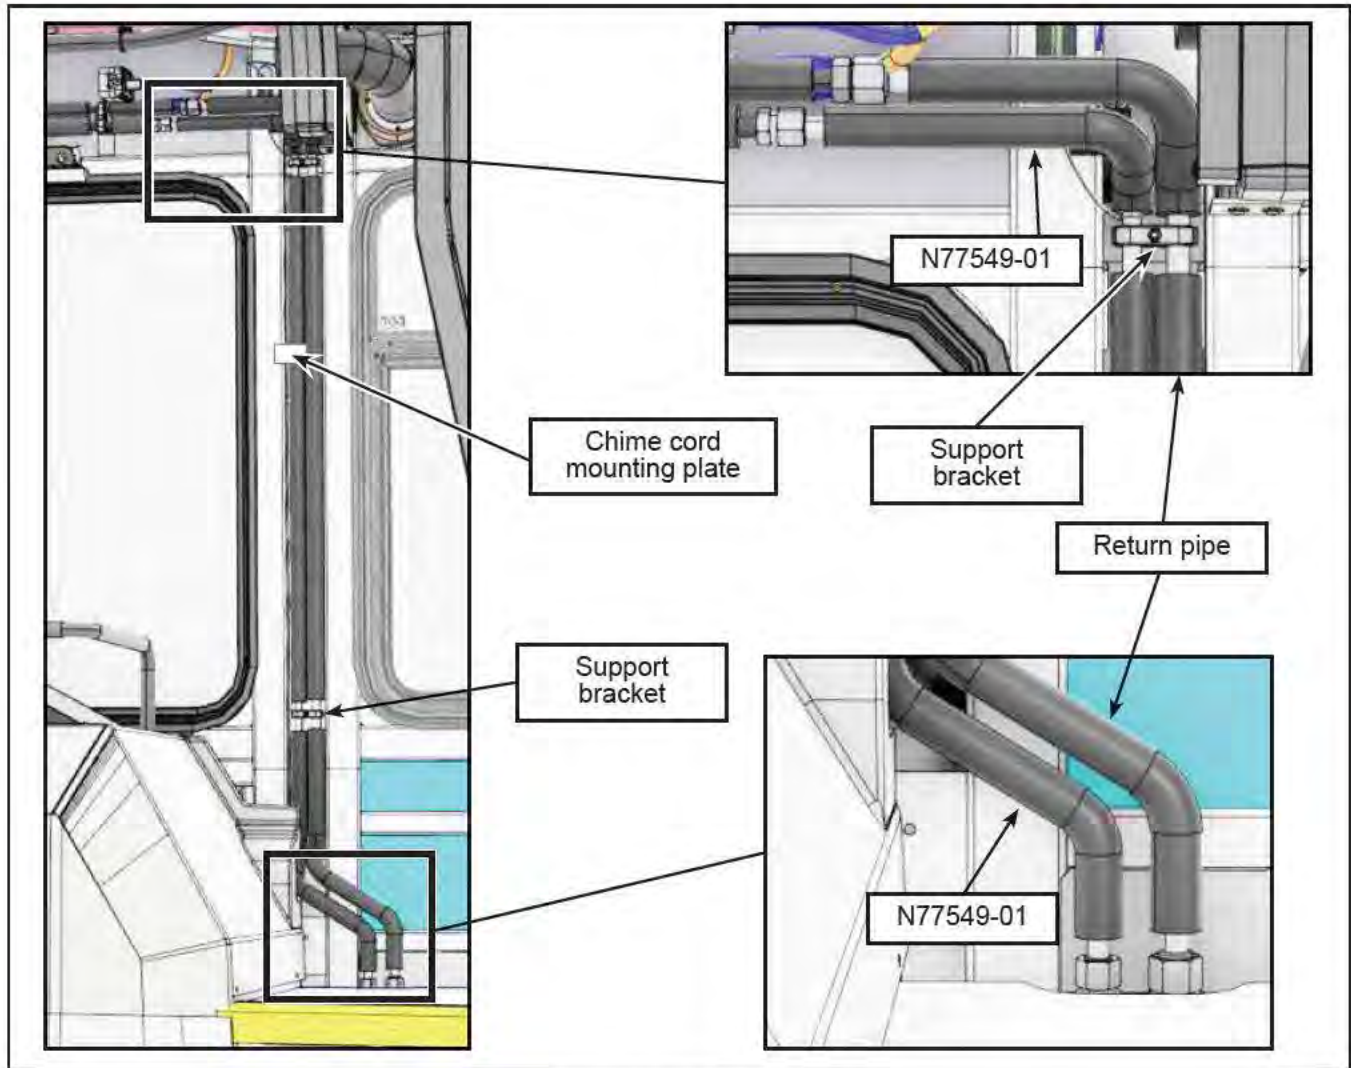

Figure 5 - Hydraulic Pipe N77549-01
- 1.16. Locate hydraulic pipe N77549-01 (Figure 5).